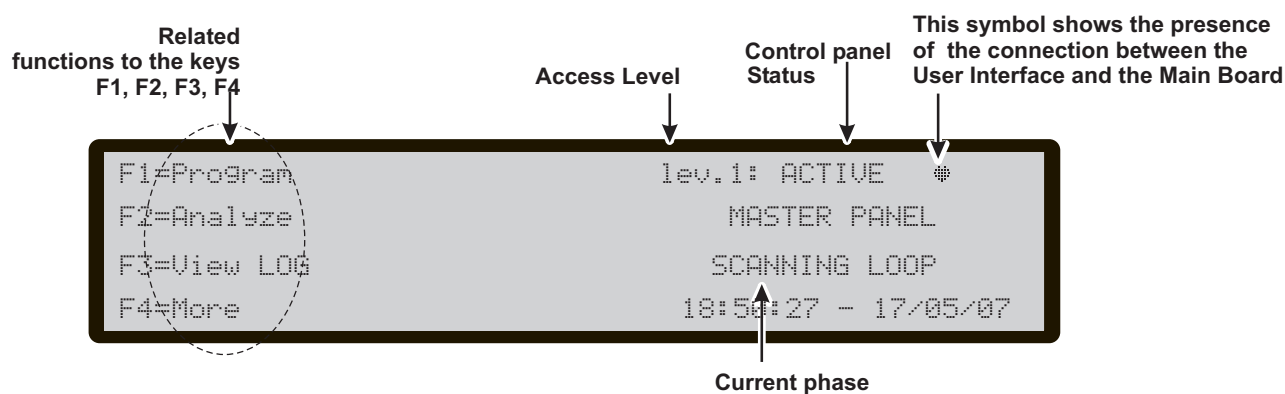

Figure 36 The Main Page of Display
- **F2-ANALYZE** button (see Figure 36) **views** the status of the: LOOP, DEVICE, SW ZONES, OUTPUT, NETWORK, TELECOM, OPTIONS, LOG and the FW Vers.;
After this Control panel has been installed and powered from the Mains (230V/50 Hz), the main page of the display shows as per Figure 36.